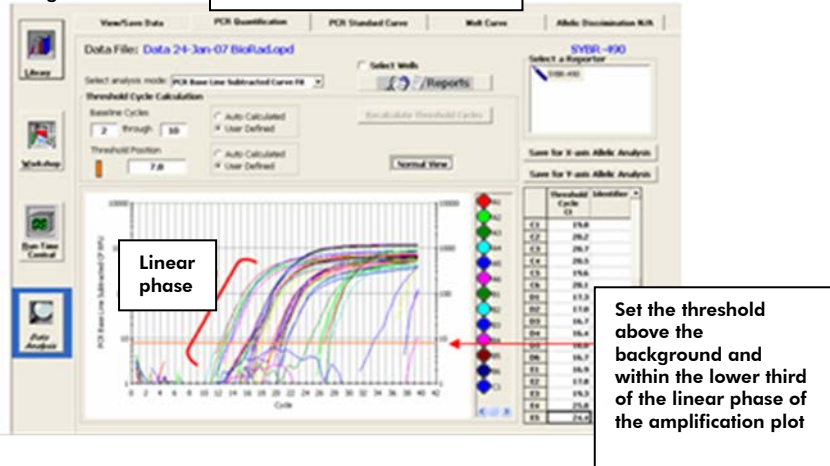

Figure 5. Setting the baseline and threshold values.
3. Follow the procedures below to calculate the threshold cycle (C_T) for each well (see Figure 5):